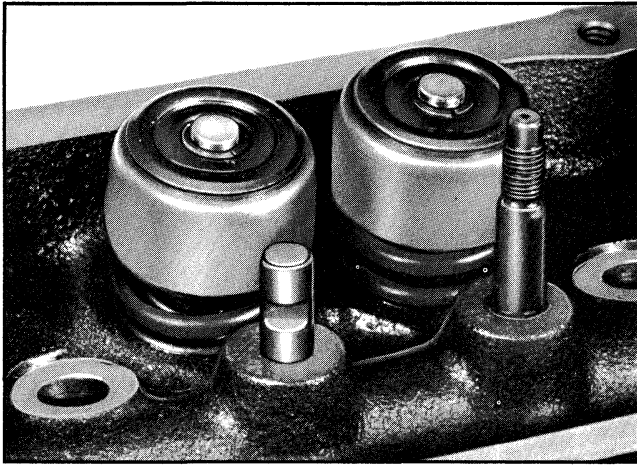

Fig. 6-105 Slots Filed in Rocker Arm Stud
2. With rocker arm removed, file two slots 3/32" to 1/8" deep on opposite sides of rocker arm stud (Fig. 6-105). Top of slots should be 1/4" to 3/8" below thread travel.
7. Remove plugs (Fig. 6-105) from ends of cylinder head oil gallery and thoroughly clean out metal deposits and foreign matter from oil gallery (head must be right side up so foreign material will not lodge in or around studs).